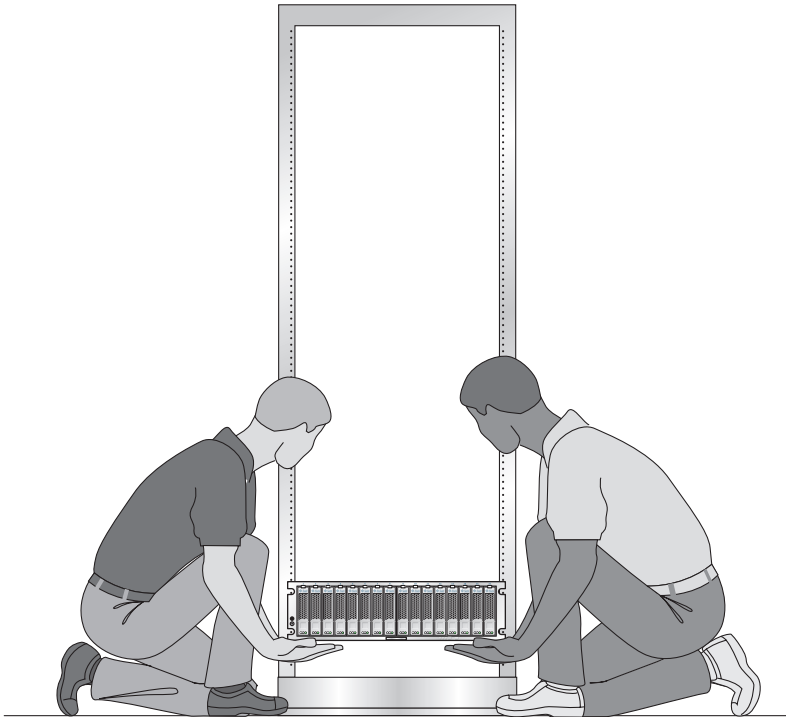

FIGURE C-5 Positioning the Tray in the Rack
2. Using two people, one at each side of the tray, carefully lift and rest the tray on the bottom ledge of the left and right rails (FIGURE C-5).